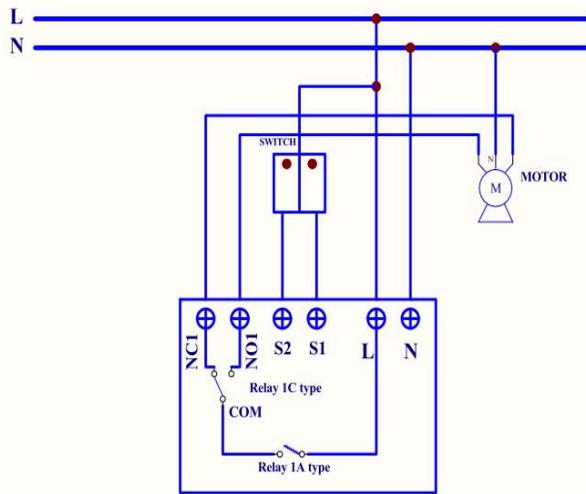

Fig 1. Assembling
2. Connect the wall switch to the TZ08 as Fig1 .